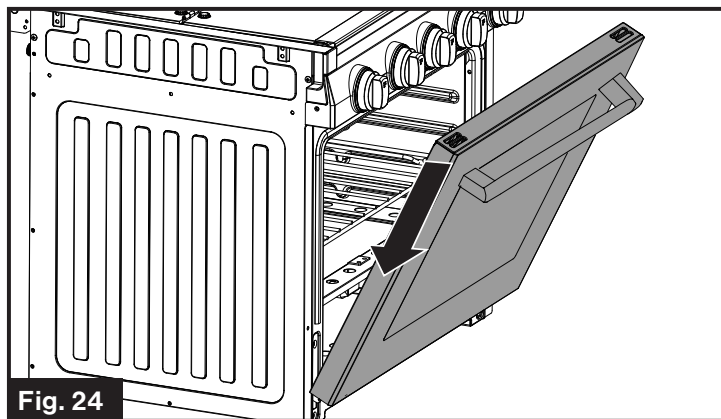
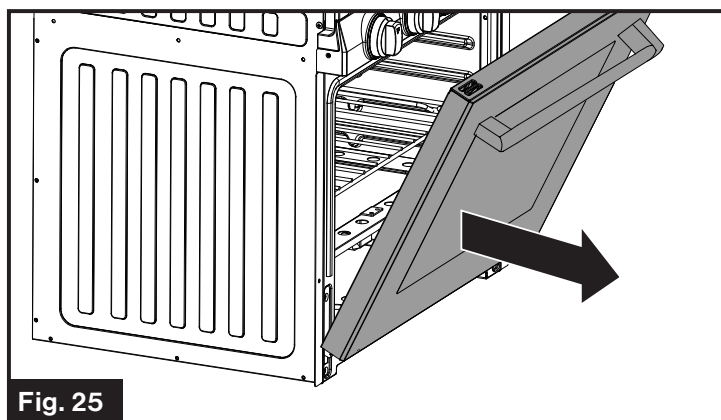
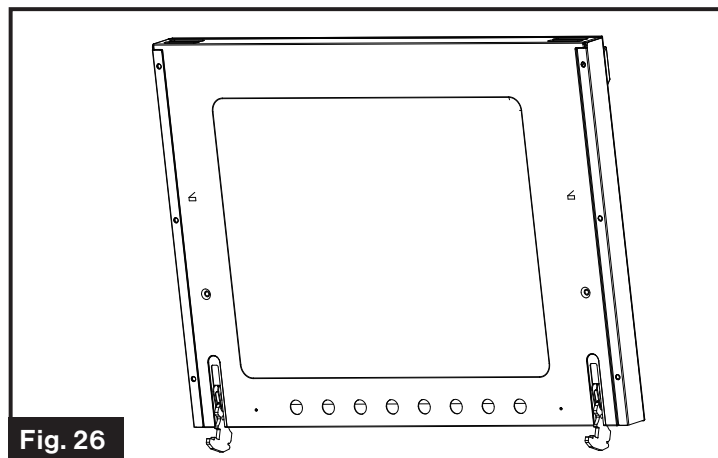

Fig. 24
Fig. 25
Fig. 26
5. Holding the door firmly on both sides and using both hands, pull the door straight out of the hinge slots. (Fig. 24, Fig. 25 and Fig. 26) Hold firmly, the door is heavy.